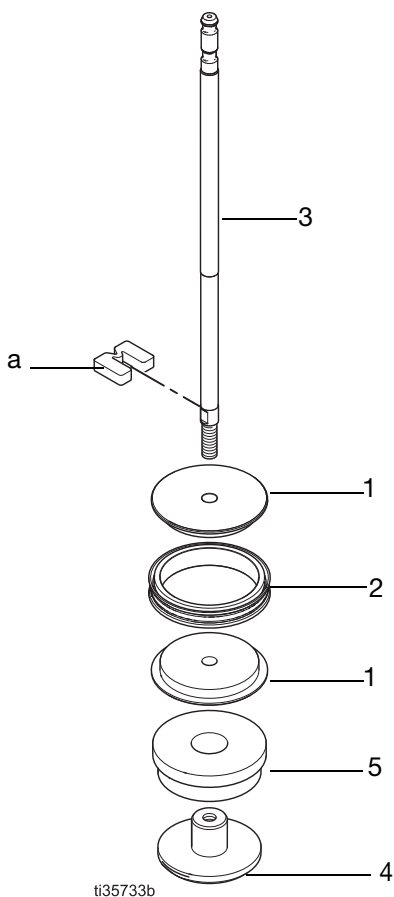

FIG. 6. Disassemble or Assemble the Piston
See FIG. 6, page 10.
1. Place the halves of the piston (1) around the piston seal (2) and snap them together. See FIG. 6.
2. Apply high strength (red) Loctite® 268, 263, or 2760 to the outer diameter threads on the rod (3), applying 360° around the thread. Screw the rod (3) through the piston (1) and spacer (5) into the piston nut (4). Put assembly into a vice using the vice fork tool (a) to clamp on to the shaft. Torque the piston nut (4) to 145-150 ft-lb (197-203 N•m). Sealant must be allowed to cure for a minimum of 12 hours before use.